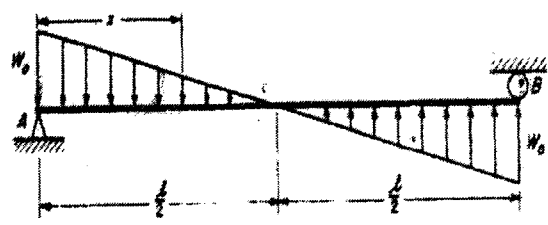

Fig. 3a
3. a) A simply supported beam carries a linearly varying transverse load as shown in Fig.3a. The intensity of load at each end of the beam is  $w_0$ . Develop general expressions for  $V_x$  and  $M_x$  at a cross-section distance  $x$  from support A. At what value of  $x$  will the bending moment be a maximum? What is the shear force at the middle cross-section of the beam?